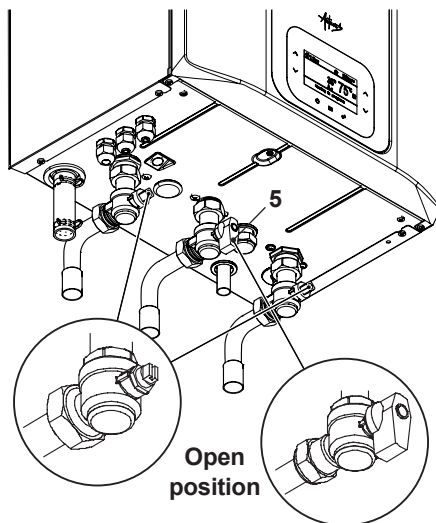

Fig. 7.1
- Open the gas cock 5 (Fig. 7.1) on the appliance and check the gas connector on the appliance for leaks.